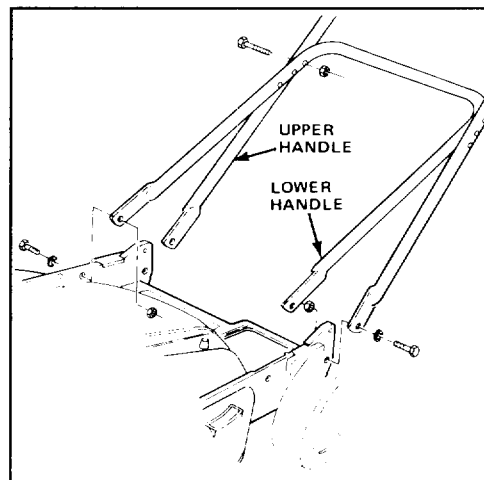

Figure 2
3. Using front set of mounting holes, mount lower handle to inside of mower housing with (2) (5/16-18 x 1-1/4" lg.) capscrews, Belleville washers and locknuts as shown in fig. 2. Position washer next to capscrew head.
4. Using rear set of mounting holes, mount upper handle to outside of mower housing with (2) (5/16-18 x 1-1/4" lg.) capscrews, Belleville washers and locknuts as shown in fig. 2.
5. Align mounting holes in upper and lower handles and secure with (2) (5/16-18 x 2-1/2" lg.) capscrews and locknuts.